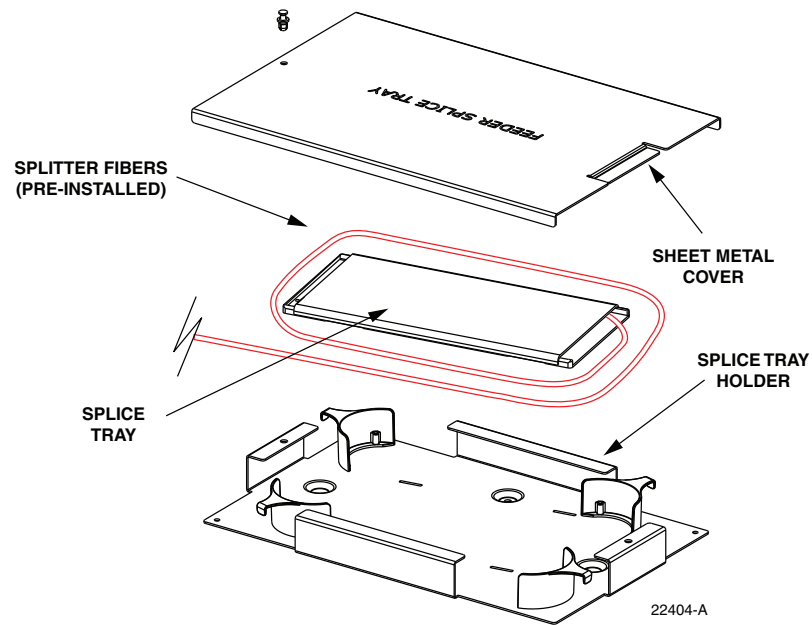

Figure 38. Feeder Slice Tray Assembly
- Lift the sheet metal cover away from the splice tray holder as shown in Figure 38.
2. Lift the sheet metal cover (See Figure 38) away from the splice tray holder.